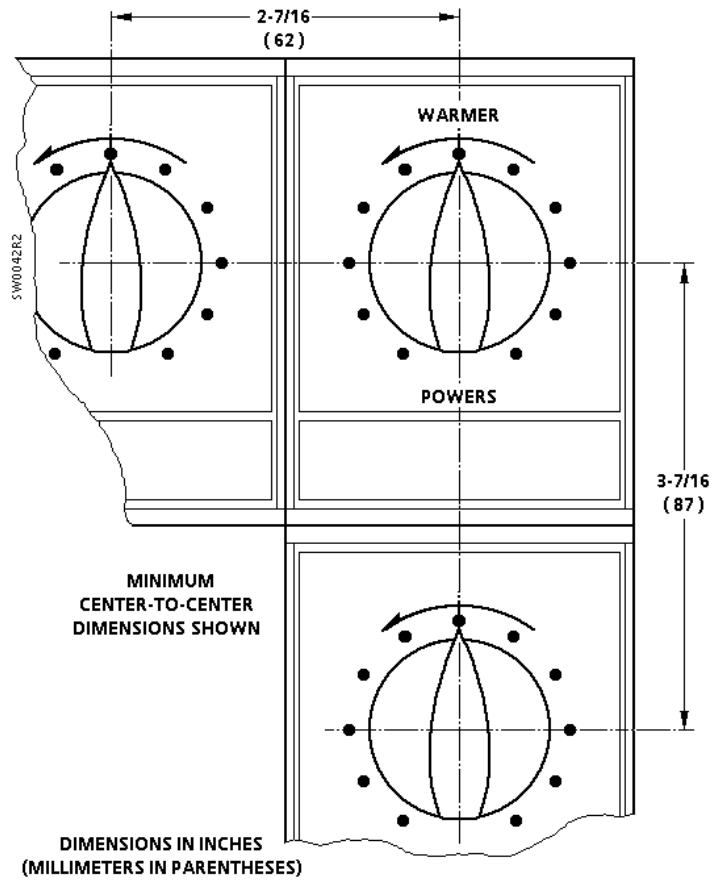

Figure 4. Panel Spacing.
Figure 4 shows the minimum distances from center to center of switches in order to mount the maximum number of switches on a panel.
5. Push switch through hole and screw mounting plate (3) to switch body. Note clearance hole for stop screw (1) head. Tighten clamping nut (5) after positioning stop screw so it is directly beneath adjusting screw shaft.
7. When switches are grouped together, provide a minimum center to center distance as shown in Figure 4.